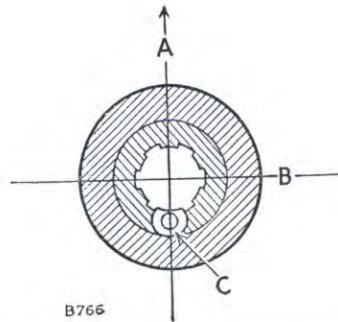

Fig. 2. Setting the cone bearing.
9. Insert the cone bearing after smearing with oil, with the vertical oil hole in the bearing towards the rear of the vehicle. See Fig. 2.